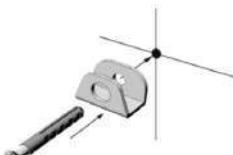

Figure 6
3. Push the two plugs (D) into the two holes and secure the two hook (C) with the two screws (D). Figure 6 and 7).
4. Screw the two supports brackets (A) (or one support bracket, depending on the model) to the rear part of the heater with the four screws (E) (or two screws, depending on the model).